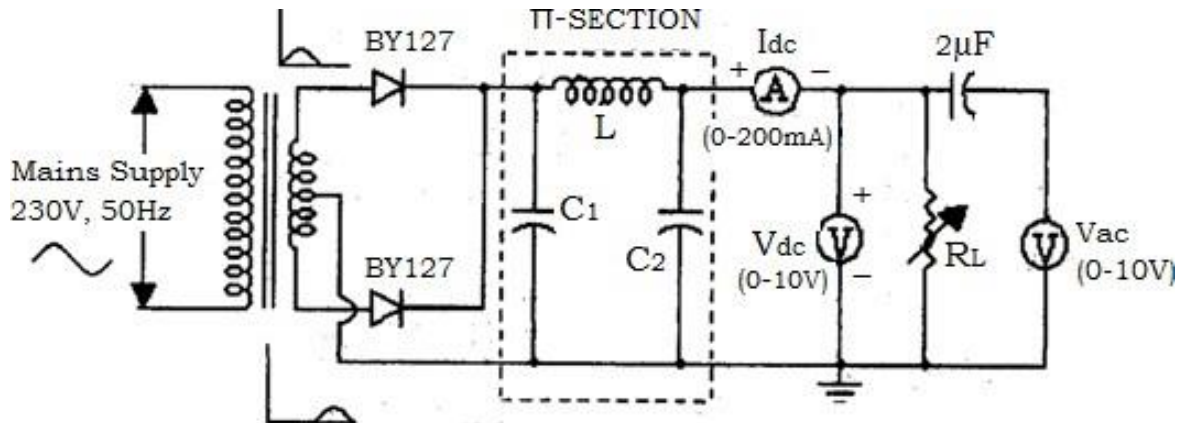

Figure 1 Circuit diagram of Full-Wave Rectifier with Π - Section Filter
- 1) Make the connections as per the circuit diagram of fig.1.